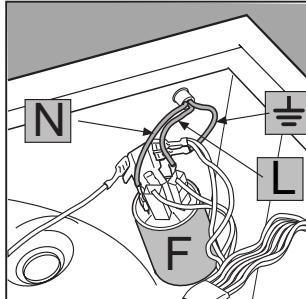

Fig. 4
- Disconnect the wires from the radio interference suppressor **F** [fig. 4] noting as to their position (**Blue=N** wire; **Brown=L** wire) leaving the earth wire until last **—**.